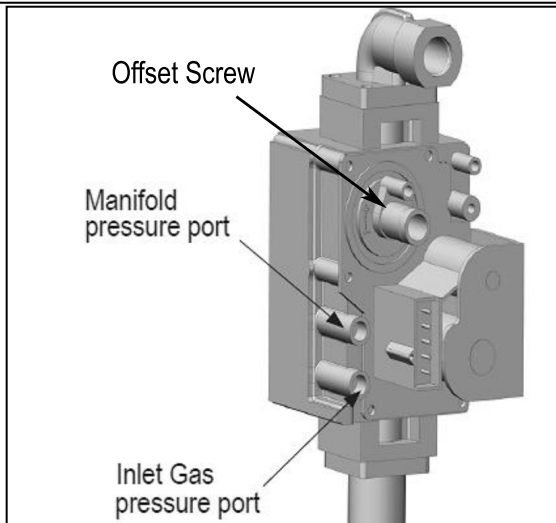

Figure 46 - Gas Valve Detail
**NOTE:** Refer Figure 46 when checking gas pressure. Loosen the bolts before checking the gas inlet pressure.
If the readings obtained are lower or higher than the combustion readings in Table 24, use a T15 Torx screwdriver to adjust the offset screw in a clockwise (positive) or counterclockwise (negative) direction (approximately 1/4 turn). See Figure 46. Check your combustion values. Repeat this procedure until the values obtained on the combustion analyzer agree with those stated in Table 24.